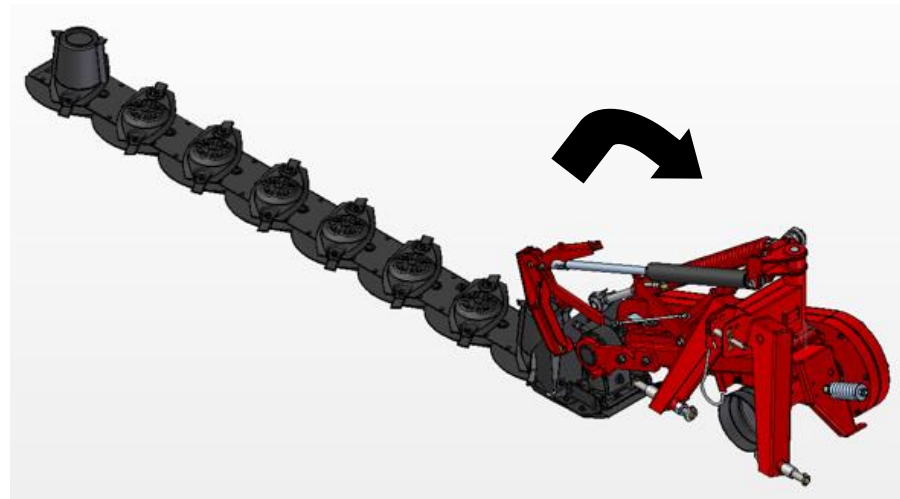

fig.C2
- turn the frame and the 3rd point using a lifting device (hoist, lift truck, etc.) and position the mower disc bar as in **fig.C2**.